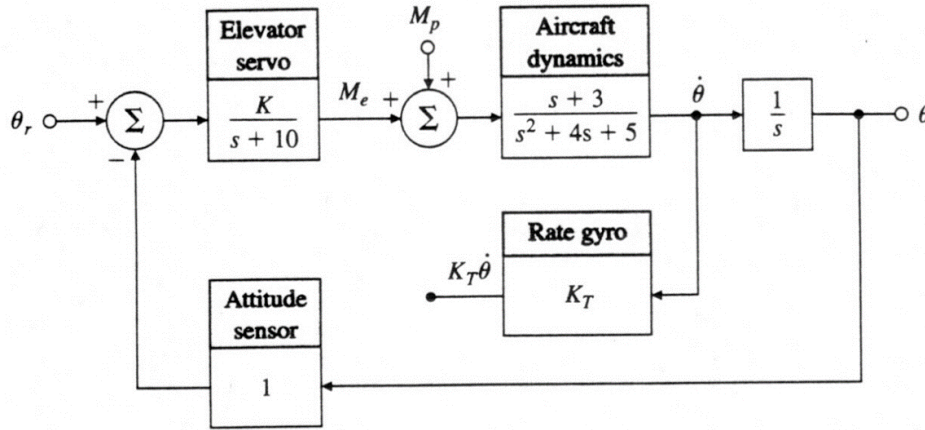

Figure 2: Golden Nugget autopilot
6. (Bonus points) Golden Nugget Airlines has opened a free bar in the tail of their airplanes in an attempt to lure customers. In order to automatically adjust for the sudden weight shift due to passengers rushing to the bar when it first opens, the airline is mechanizing a pitch-attitude auto pilot. Figure 2 shows the block diagram of the proposed arrangement. We will model the passenger moment as a step disturbance  $M_p(s) = M_0/s$ , with a maximum expected value for  $M_0$  of 0.6.